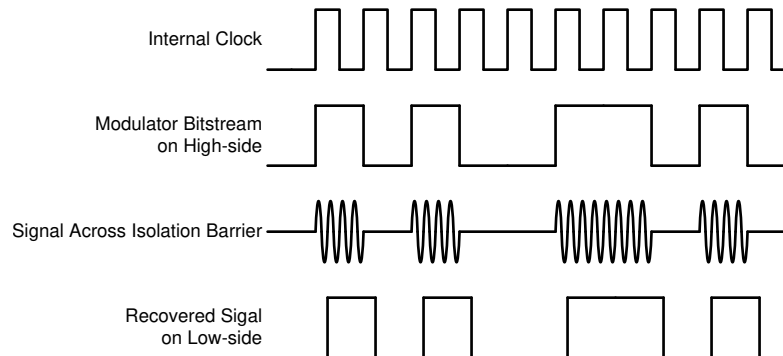

图 7-1. OOK-Based Modulation Scheme
The AMC1302 uses an on-off keying (OOK) modulation scheme, as shown in 图 7-1, to transmit the modulator output bitstream across the SiO₂-based isolation barrier. The transmit driver (TX) shown in the Functional Block Diagram transmits an internally-generated, high-frequency carrier across the isolation barrier to represent a digital *one* and does not send a signal to represent a digital *zero*. The nominal frequency of the carrier used inside the AMC1302 is 480 MHz.